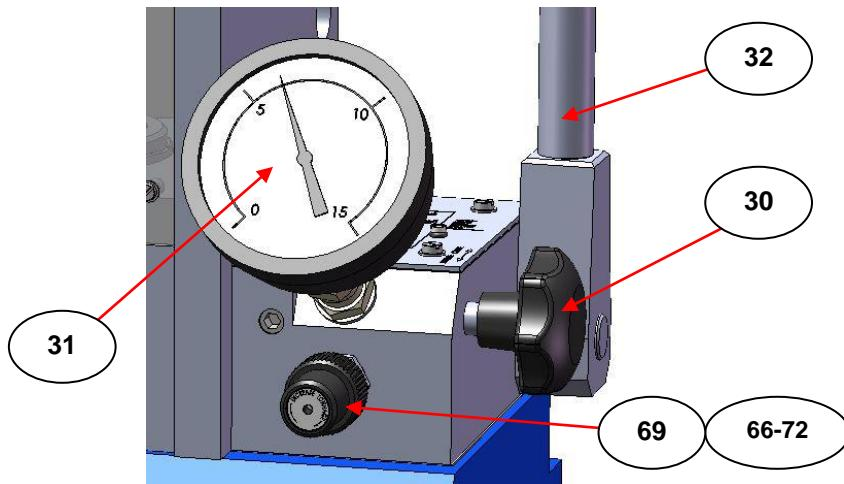

Fig 7. Pressure Relief Valve for Setting a Maximum Load
Beneath the pressure gauge (31) there is a pressure relief valve assembly (**66 to 72**) which may be set so that any load between 0-15 tons or 0-25 tons is the maximum load that can be obtained. (See Fig 7.) The relief valve set knob (69) can be rotated clockwise to increase the maximum pressure in the system, and hence the applied load, or rotated anticlockwise to decrease the pressure in the system.